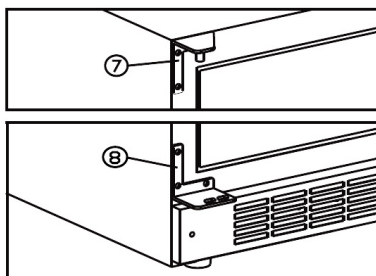

fig. 6.4
- Mount the left top and bottom hinge enclosed (7 + 8). See fig. 6.4
- Remount the door pin previously dismounted (3) in the bottom hinge
- Mount the door in the top hinge (7) towards the door pin (3), tighten the door pin (1)